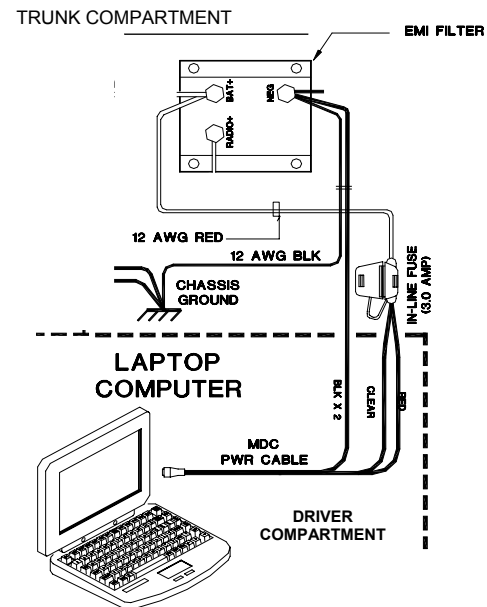

Figure 8
**Step 2** Route and wire the red and clear MDC power wires via a 3 AMP in-line fuse, routing the red wire (#12 AWG) to the battery (+) terminal connection on the EMI Filter (see Fig. 8).
**Step 3** Route and wire the black MDC power wire to the negative (-) terminal on the EMI Filter (see Fig. 8).